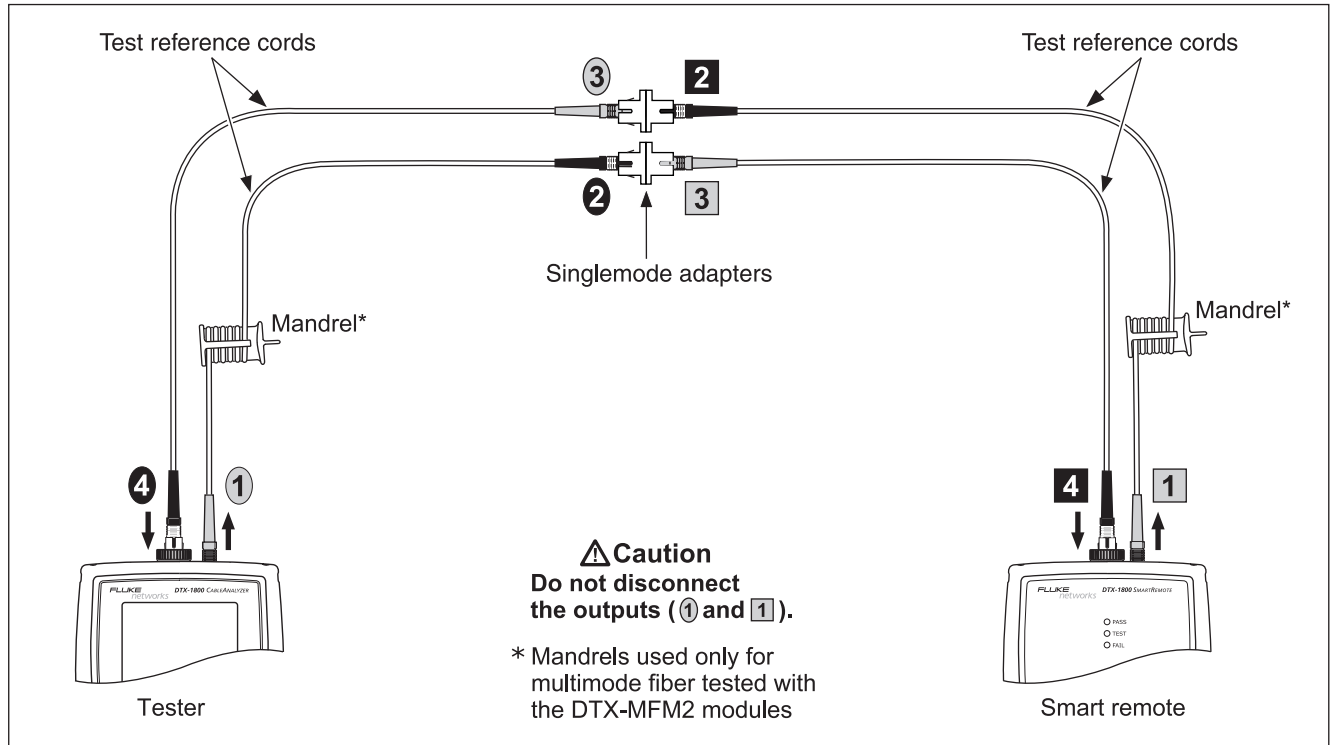

Figure 8-10. Testing the Test Reference Cords in Smart Remote Mode
- 13 Make the connections shown in Figure 8-10.